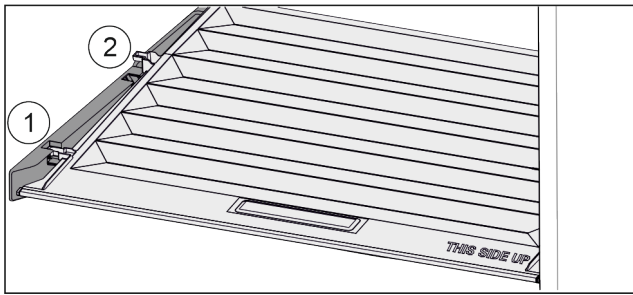

Fig. 84
- ▶ Pull the lid up at the front to the opening in the retaining parts Fig. 84 (1).
- ▶ Lift from the back and pull it up and out Fig. 84 (2).